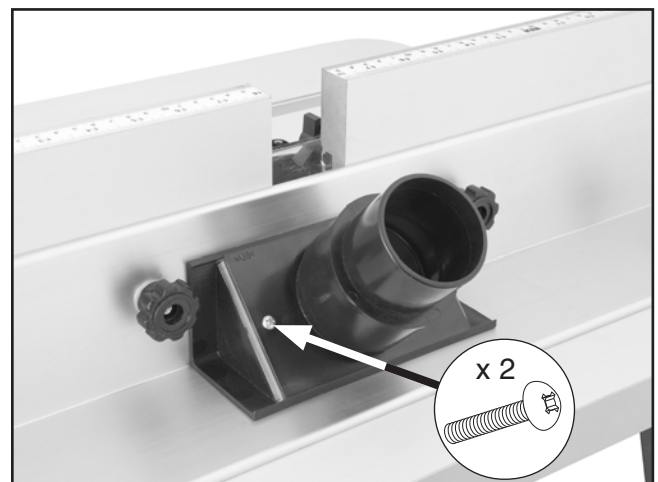

Figure 9. Dust port assembly attached to the fence support.
- Slide the dust port onto the dust port housing, then attach the assembly to rear of the fence support with the (2) M5-.8 x 55 Phillips head screws, as shown in **Figure 9**.